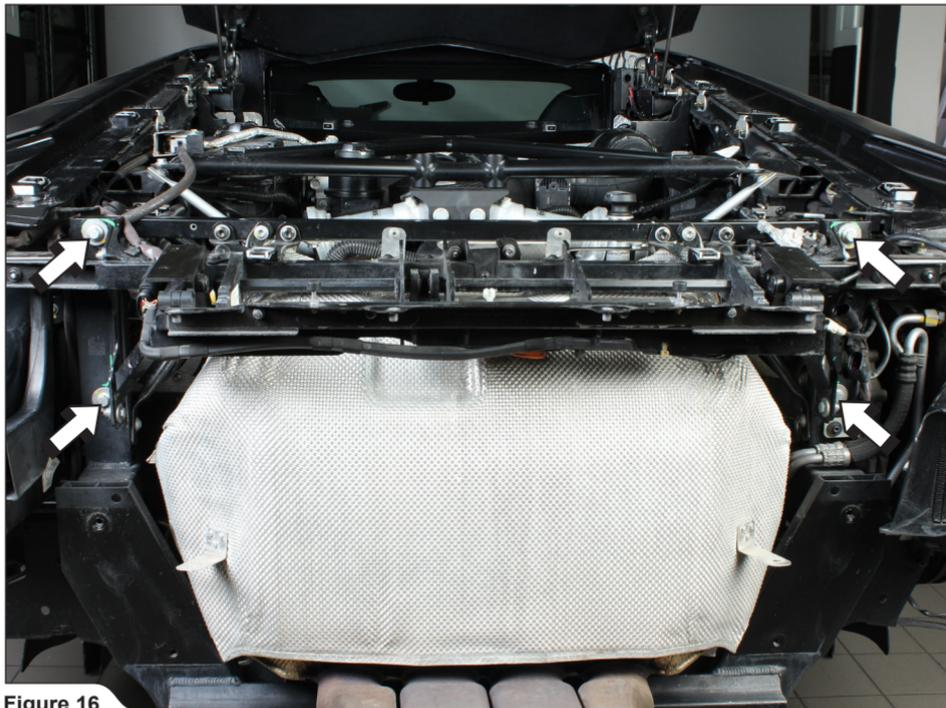

Figure 16
9. Unscrew the marked bolts, move the electrical harnesses out of the way as shown, and remove the rear spoiler's bracket off the vehicle (**Figure 16, 17**).